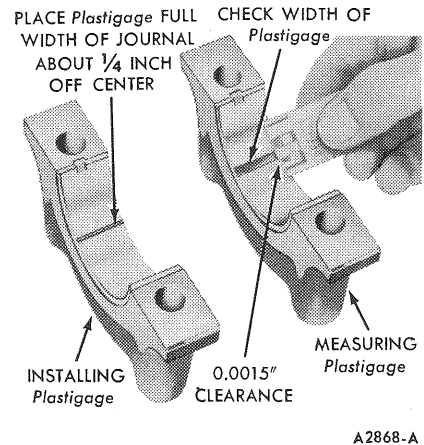

FIG. 32 Installing and Measuring Plastigage
3. Place a piece of Plastigage on bearing surface across full width of bearing cap and about 1/4 inch off center (Figure 32).